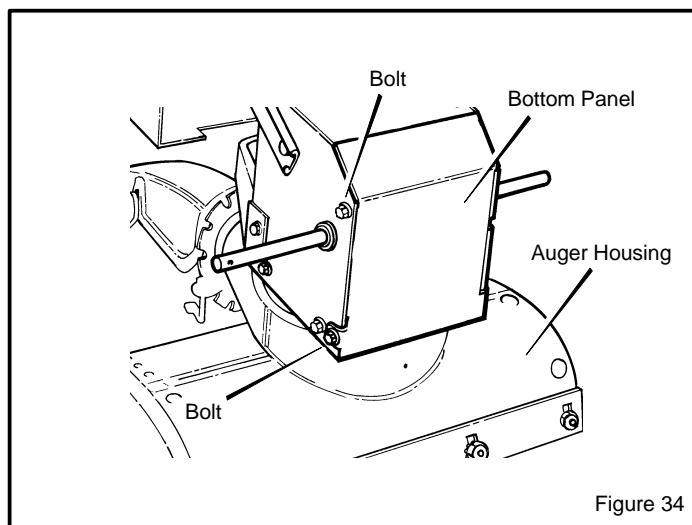

Figure 34
2. Loosen the **bolts** on each side of the **bottom panel** (see Figure 34).
12. Install the **bottom panel** (see Figure 34).